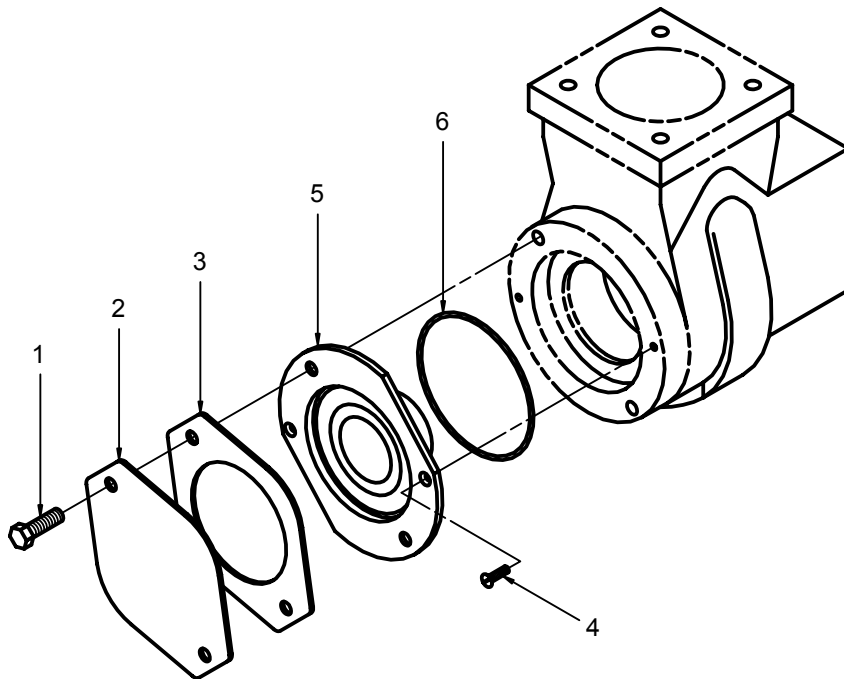
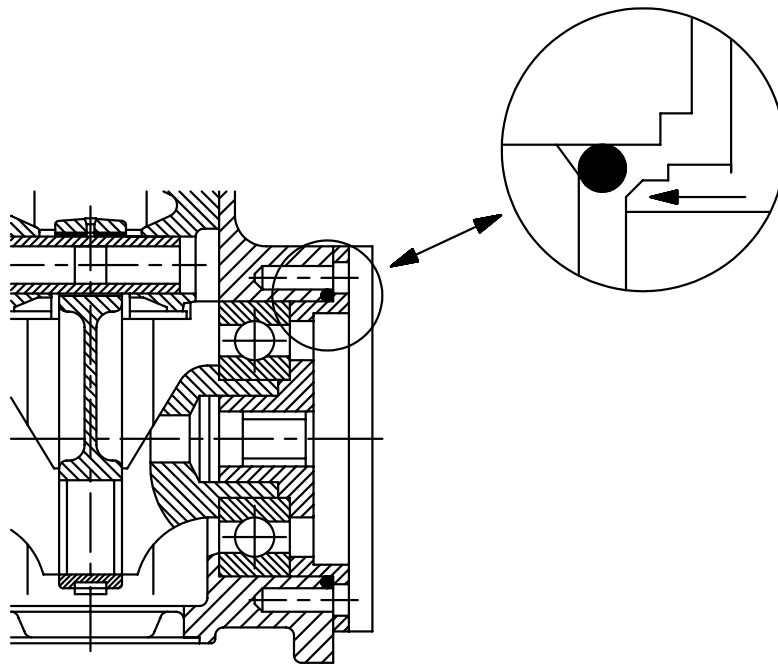

Figure I-3. Air Compressor Rear Seal and Adapter
Figure I-4. Compressor Rear Bearing O-ring Seal Installation
I-3-2 Rear Seal and Adapter Replacement. (Refer to Figures I-3 and I-4.)
- a. Remove two bolts (1, Figure I-3) securing the back cover (2).
- b. Remove and discard cover gasket (3).
- c. Remove two flat head screws (4), if installed. Then remove and discard the metal pump adapter (5).
- d. Remove and discard O-ring seal (6).
- a. Lube new O-ring seal (6, Figure I-3) with clean oil, MIL-L-2104. Then insert the seal into the fillet pocket formed by the corner of the rear bearing and the wall of the crankcase. Refer to Figure I-4.
- b. Install new pump adapter (5, Figure I-3) into compressor while aligning the mounting holes for the two flat head screws (4). Install and torque the flat head screws (4) to 5 ft-lbs (6 Nm).
- c. Install back cover (2) with new cover gasket (3) and secure with two bolts (1). Torque bolts (1) to 15 ft-lbs (20 Nm).